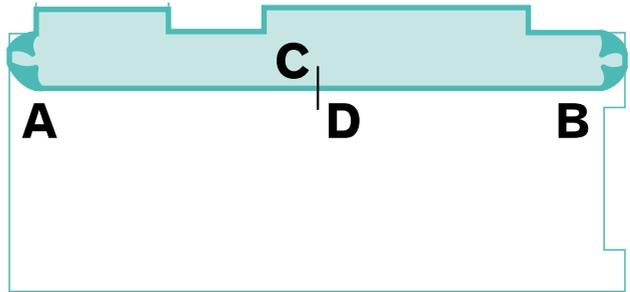

Figure 37 Lining up the first sheet
- ▶ When satisfied that the fit on the first edge is correct, use a pencil to trace the opposite edge onto the subfloor (line A-B in fig. 37).
- ▶ In the centre of the room, draw a line on both the sheet and subfloor square to the main axis of the sheet (line C-D in fig. 37).